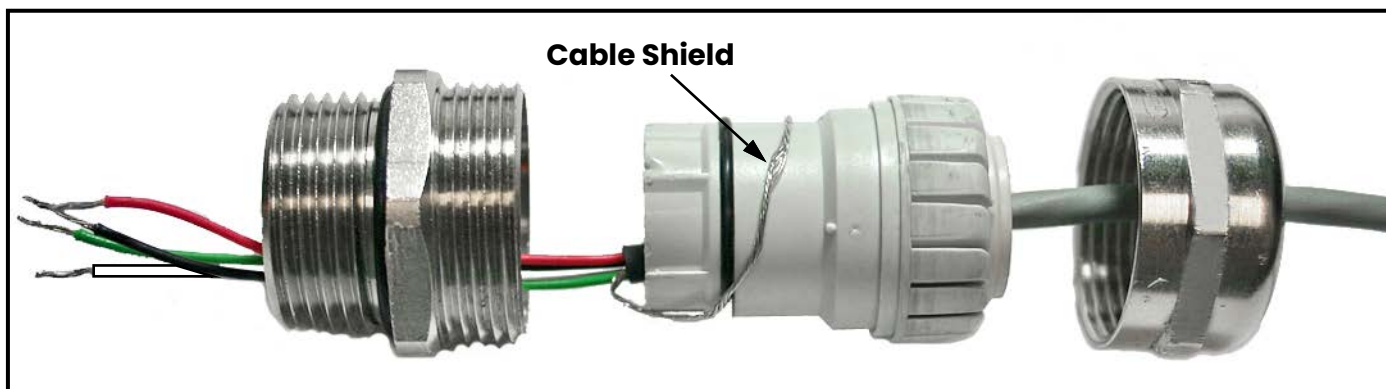

Figure 3: Proper Cable Gland Assembly
1. Route the 4-wire power/analog output cable through a cable gland as shown in Figure 3 below.
IMPORTANT: The cable shield must be terminated in the cable gland as shown in Figure 3 below.
For CE Mark compliance, you must use shielded cable and connect the shield to a cable gland (see Figure 3 on page 7). After you make all the necessary electrical connections, seal the unused cable entry holes with standard conduit plugs or their equivalent.